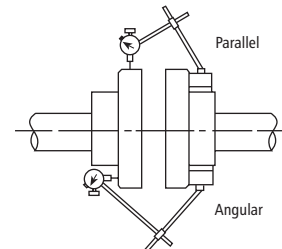

Figure 4
- Alignment **MUST** be checked prior to running. See Figure 4.